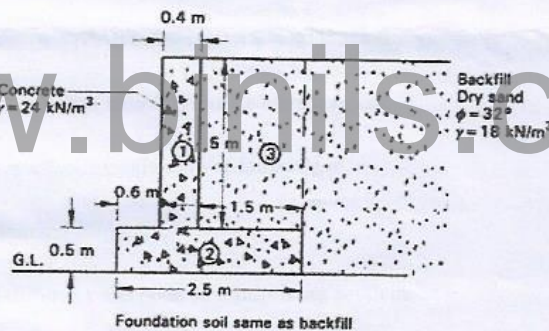

Fig. Q 16 (b).
- (b) A cantilever retaining wall retains dry sand to a depth of 5.5 m as shown in figure. Q. 16(b) Check the stability of retaining wall and pressure. Safe bearing capacity is 250 kN/m^2 .